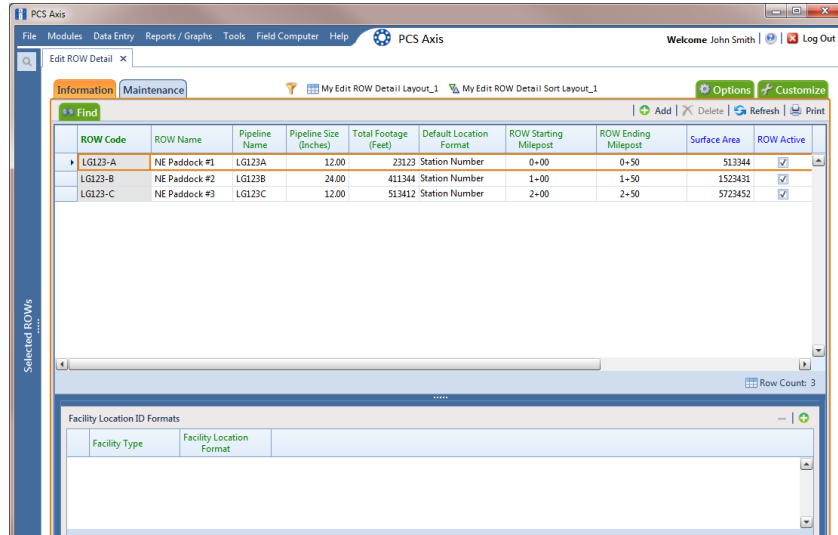

Figure 4-17. Row Detail Information Grid
- Open *Edit ROW Detail*. Click **Data Entry** > **Edit ROW Detail** (Figure 4-17).
- 4 Click the **Maintenance** tab **Maintenance** to open the *Maintenance* grid (Figure 4-17).